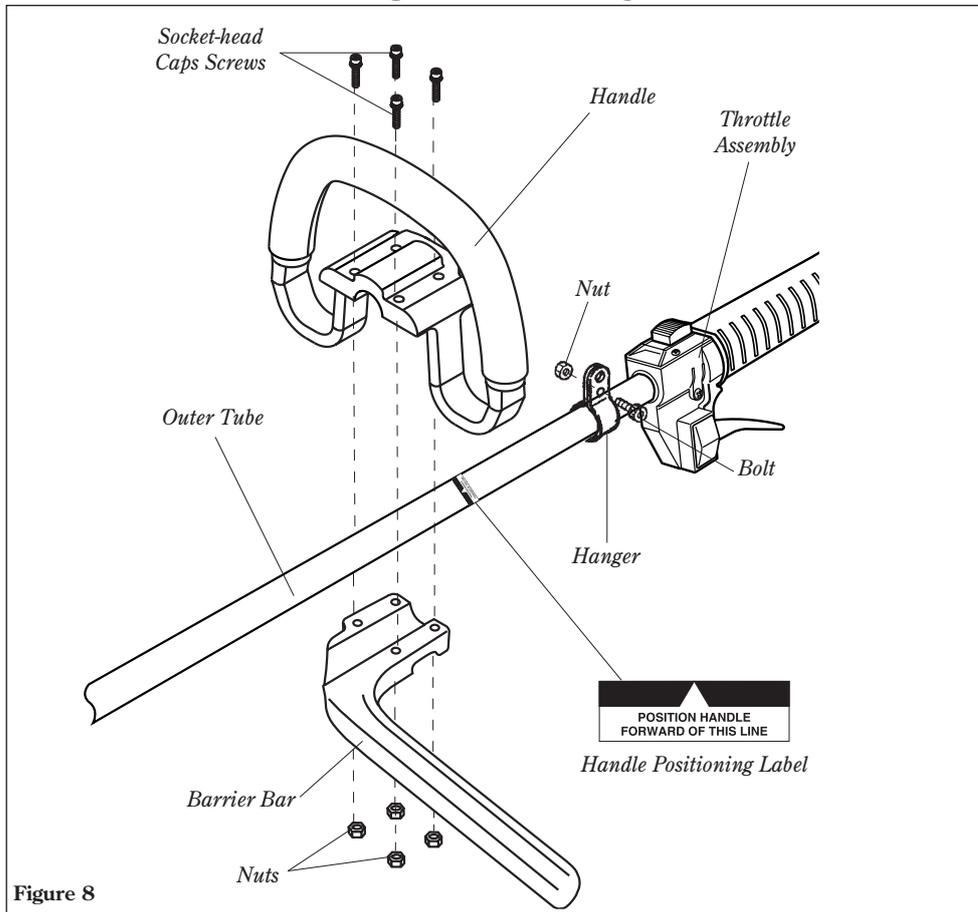

Figure 8
2. Position the handle on the outer tube forward of Handle Positioning Label as shown in Figure 8.
6. Position the hanger on the outer tube between the handle and throttle assembly. See Figure 8.
7. Secure the hanger with the nut and bolt as shown in Figure 8.